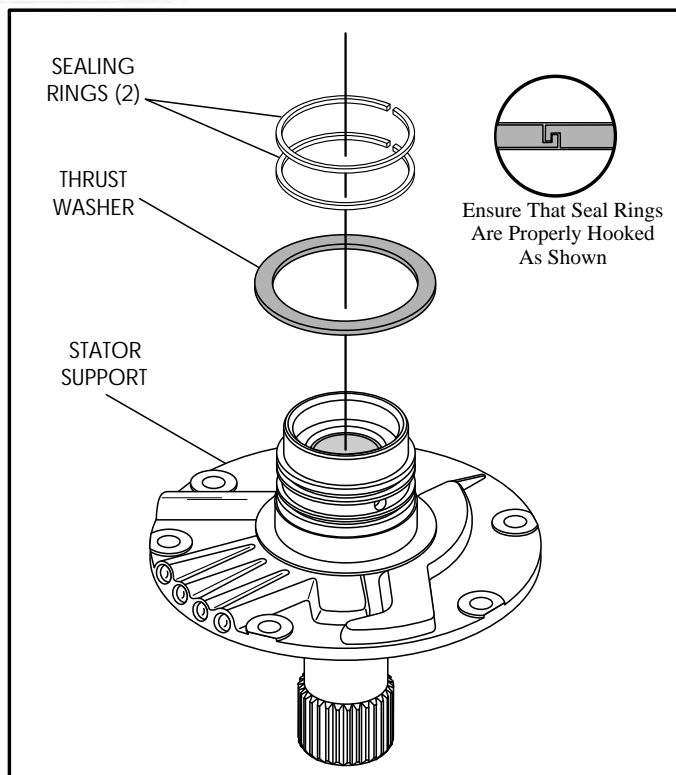

Figure 86
8. Install oil pump to front drum thrust washer, as shown in Figure 86, and retain with a small amount of Trans-Jel®.
9. Install two **new** pump sealing rings and ensure that they are hooked properly (See Figure 86).